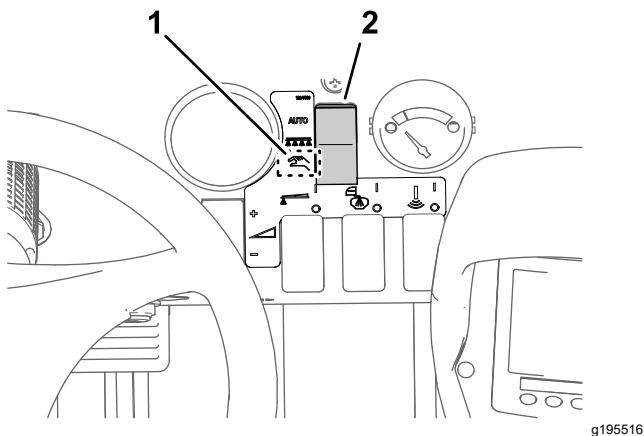

Figure 46
2. Set the sprayer mode button to the Manual Mode (Figure 46).